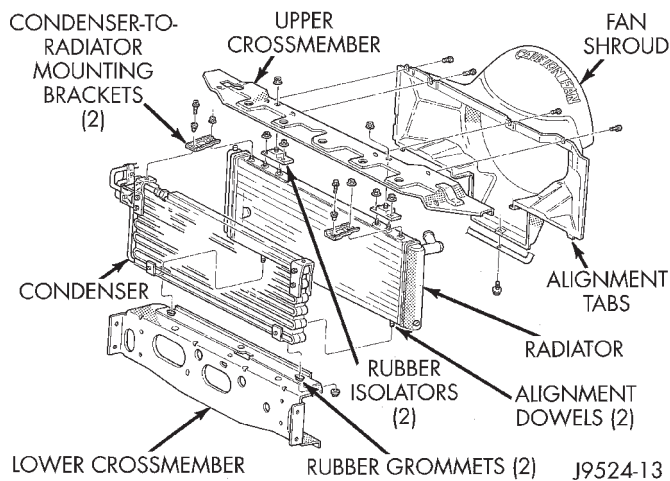

Fig. 38 Condenser Mounting - Typical
(1) Disconnect and isolate the battery negative cable.
(2) Recover the refrigerant from the refrigerant system. See Refrigerant Recovery in this group for the procedures.
(3) Remove the screws attaching the grille and headlamp mounting module to the upper crossmember of the vehicle. Refer to Group 23 - Body for this and further steps in the procedure.
(4) Remove the headlamps from their mounts.
(5) Remove the nuts that secure the hood latch and brace to the upper crossmember.
(6) The radiator upper crossmember can be adjusted left or right through the use of its slotted mounting holes. Before removal, mark the original position of the crossmember.
(7) Remove the bolts that secure the radiator to the upper crossmember and set it aside (Fig. 38).
(8) Remove the engine air filter inlet duct secured at the headlamp mounting module.
(9) Remove the headlamp mounting module and front fascia for access to the condenser and fittings.